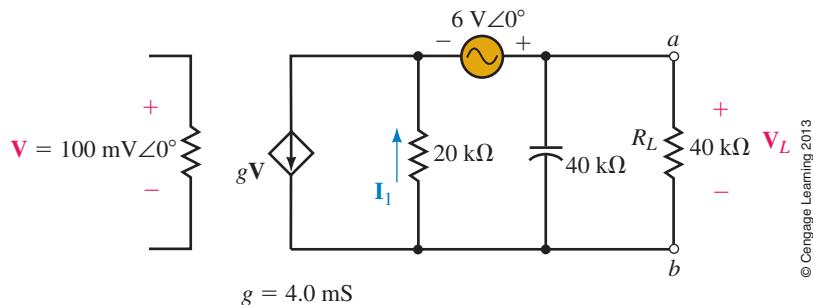

FIGURE 20-74
13. Use superposition to find the current \mathbf{I}_1 in the circuit of Figure 20-74.
37. a. Find the Thévenin equivalent circuit external to the load impedance in Figure 20-74.